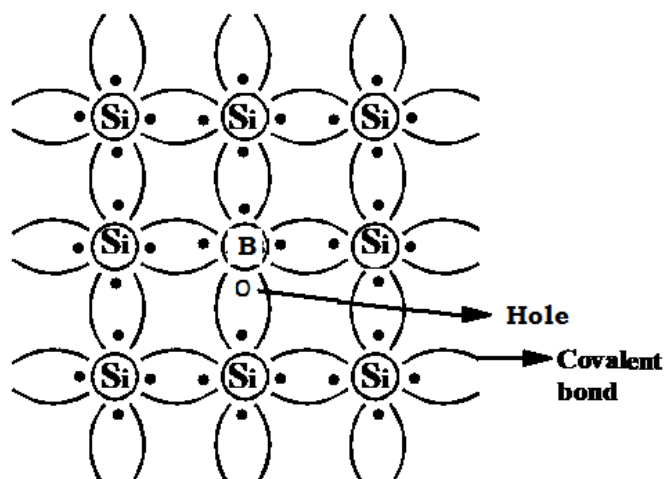

Fig. 6.11. Lattice structure of p-type semiconductor
When a trivalent impurity atom such as **boron** (B) is added to the silicon crystal, three valence electrons of the boron atom will form covalent bonds with three valence electrons of the three neighbouring silicon atoms. The fourth covalent bond however, remains incomplete, as the boron atom has only three valence electrons. The resulting vacancy is called as a **hole** shown in fig. 6.11. Thus each trivalent impurity atom (boron) creates, a hole without generating a free electron. Semiconductor now has excess of holes known as a **p-type semiconductor**.